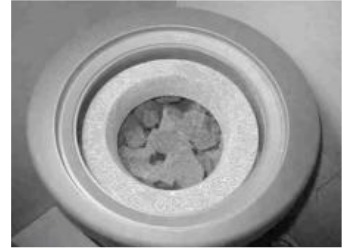

Figure 2
- First install the lower insulation ring in its place (see figure 2).